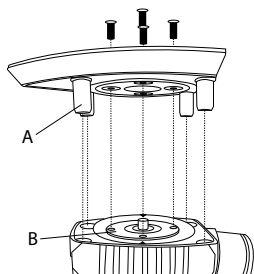

Figure 1
- ◆ Now fit the required sander plate. Ensure that the mounting plate **B** is aligned with the sander plate. The threaded holes of the mounting plate **B** must be aligned with the corresponding holes on the respective sander plate. Align the rubber pins **A 15** (only on sander plates **9** and **11**) with the holes in the appliance (see fig. 1).